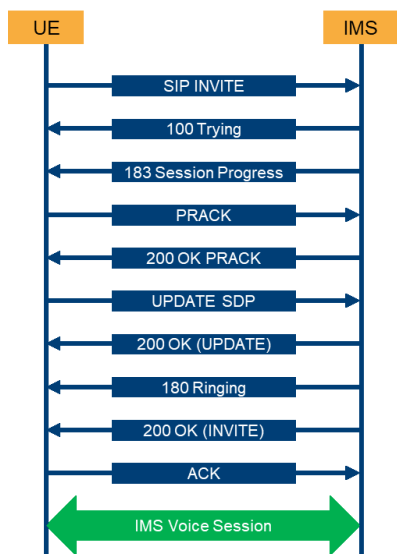

Figure 1-3 IMS Mobile Originated (MO) call flow [10]
Figure 1-3 illustrates a basic IMS Mobile Originated (MO) session flow chart. For Mobile Terminate (MT) call, the messages in the call flow remain the same while the role of UE and IMS is interchanged.